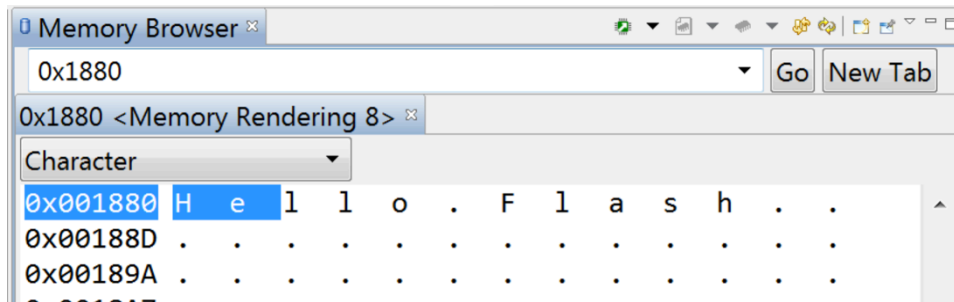

Figure 9.- Memory Browser
4. Compile the program and watch the flash memory at 0x1880. (Figure 9)